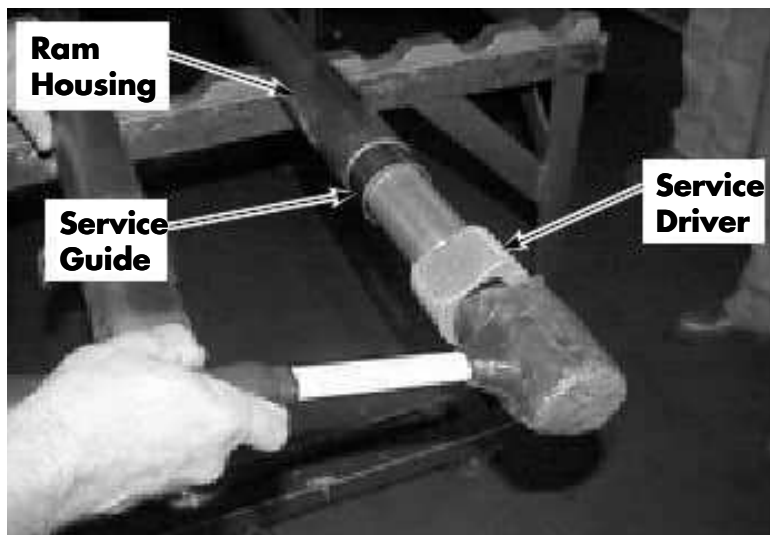

Figure 7-172. Using Cylinder Service Tools
7. Install service guide. See Figure 7-172.
9. Drive seal into assembly with driver. See Figure 7-172.